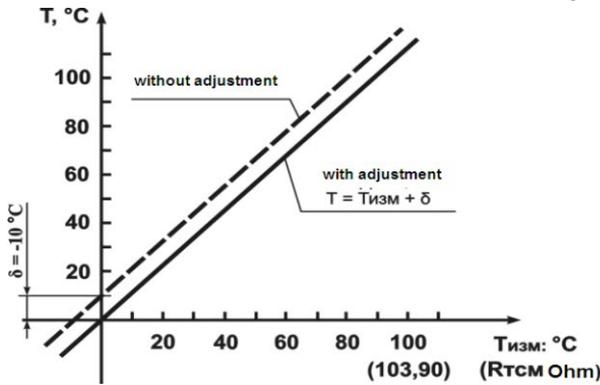

Figure 3.3
3.2.3.1 To provide for the error compensation  $\Delta R = (R_0 - R_{0.TC})$  produced by the input wiring resistance RTC, each **measured temperature value** ( $T_{izm}$ ) is added with a user specified value  $\delta$ . Figure 3.3 shows an example of a characteristics shift for Pt100 sensor.